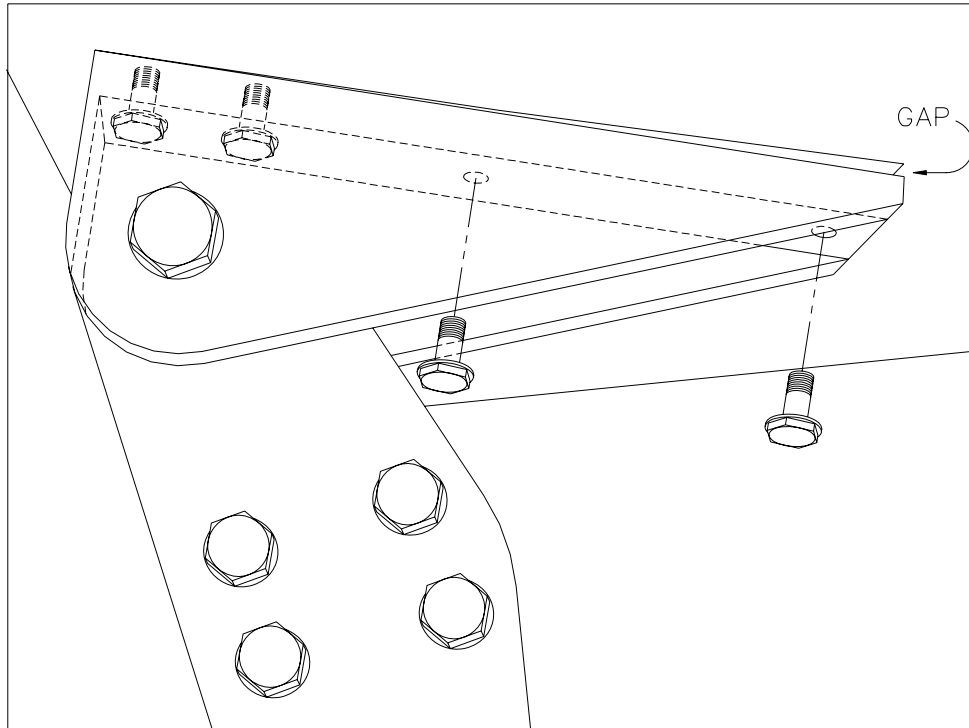

Figure 2
2. Unscrew the two front bolts from each pivot attachment, leaving the rear two bolts done up tight, as shown in Figure 2. Anchor nuts were used to retain these bolts on early aircraft. Later aircraft have loose nuts (MS21042-3) and washer (AN960-10), access to which can be gained through the upper Horizontal Stabiliser access panel.